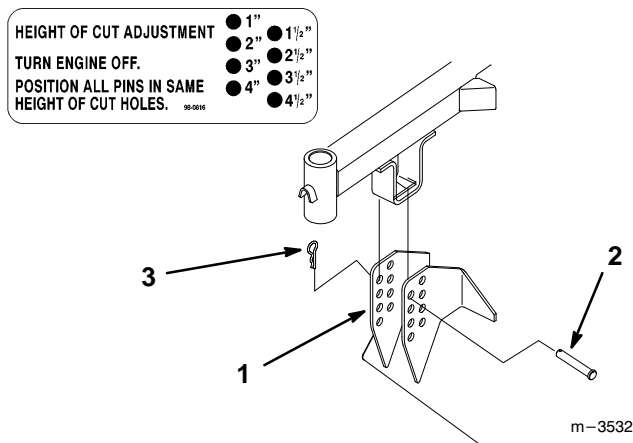

Figure 6
11. Select hole in mower hanger bracket corresponding to the height-of-cut desired. Lift on side and front to align holes and insert clevis pin (Fig. 6).
12. Secure clevis pin with hairpin cotter (Fig. 6).